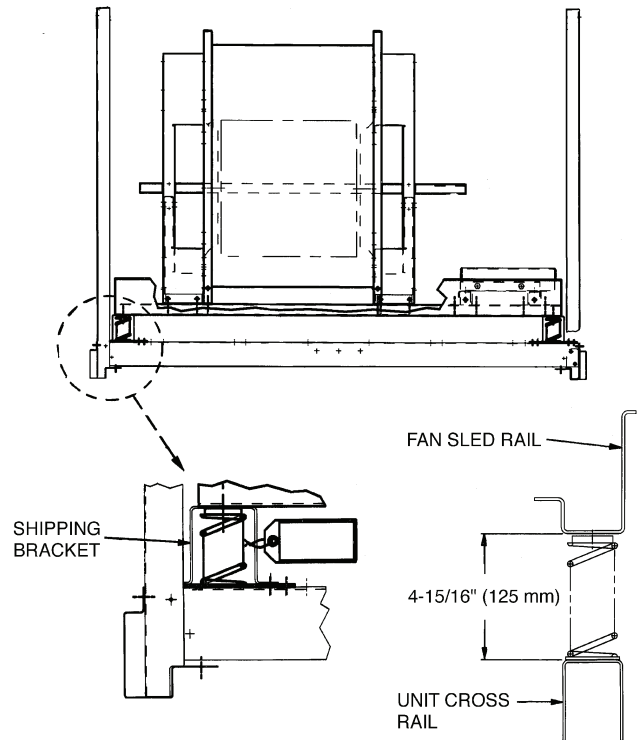

Fig. 49 — Shipping Brackets; Size 030-050 Units
4. After removing all shipping brackets, level fan sled using the adjusting screws. On all 4 corners, dimension from cross rail to fan sled should be as shown in Fig. 49.